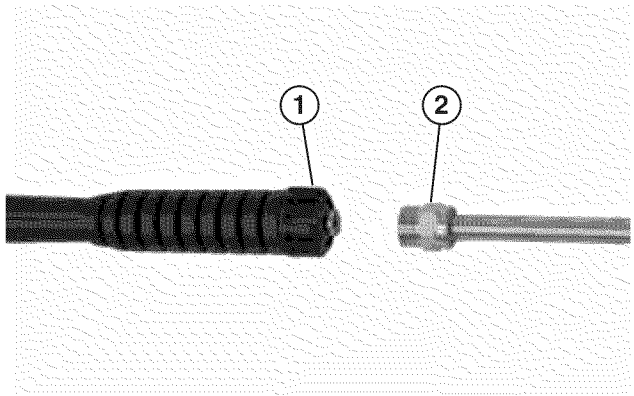

Figure 23 – Connecting Spray Wand
10. Connect the wand to the spray gun and turn the fitting counterclockwise to tighten (see Figure 23). Do not overtighten. The fitting only needs to be hand-tight.